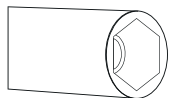

Figure 16
2. For injector change, use a screwdriver whose edge is as the Figure 16.